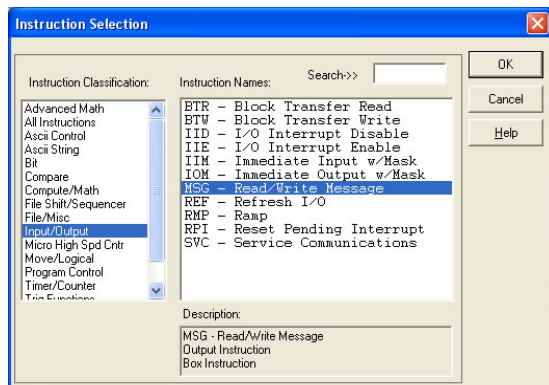

Figure 68: MSG Instruction Selection
- Select the “MSG” instruction from the “Input/Output” classification, then click OK. Refer to Figure 68.